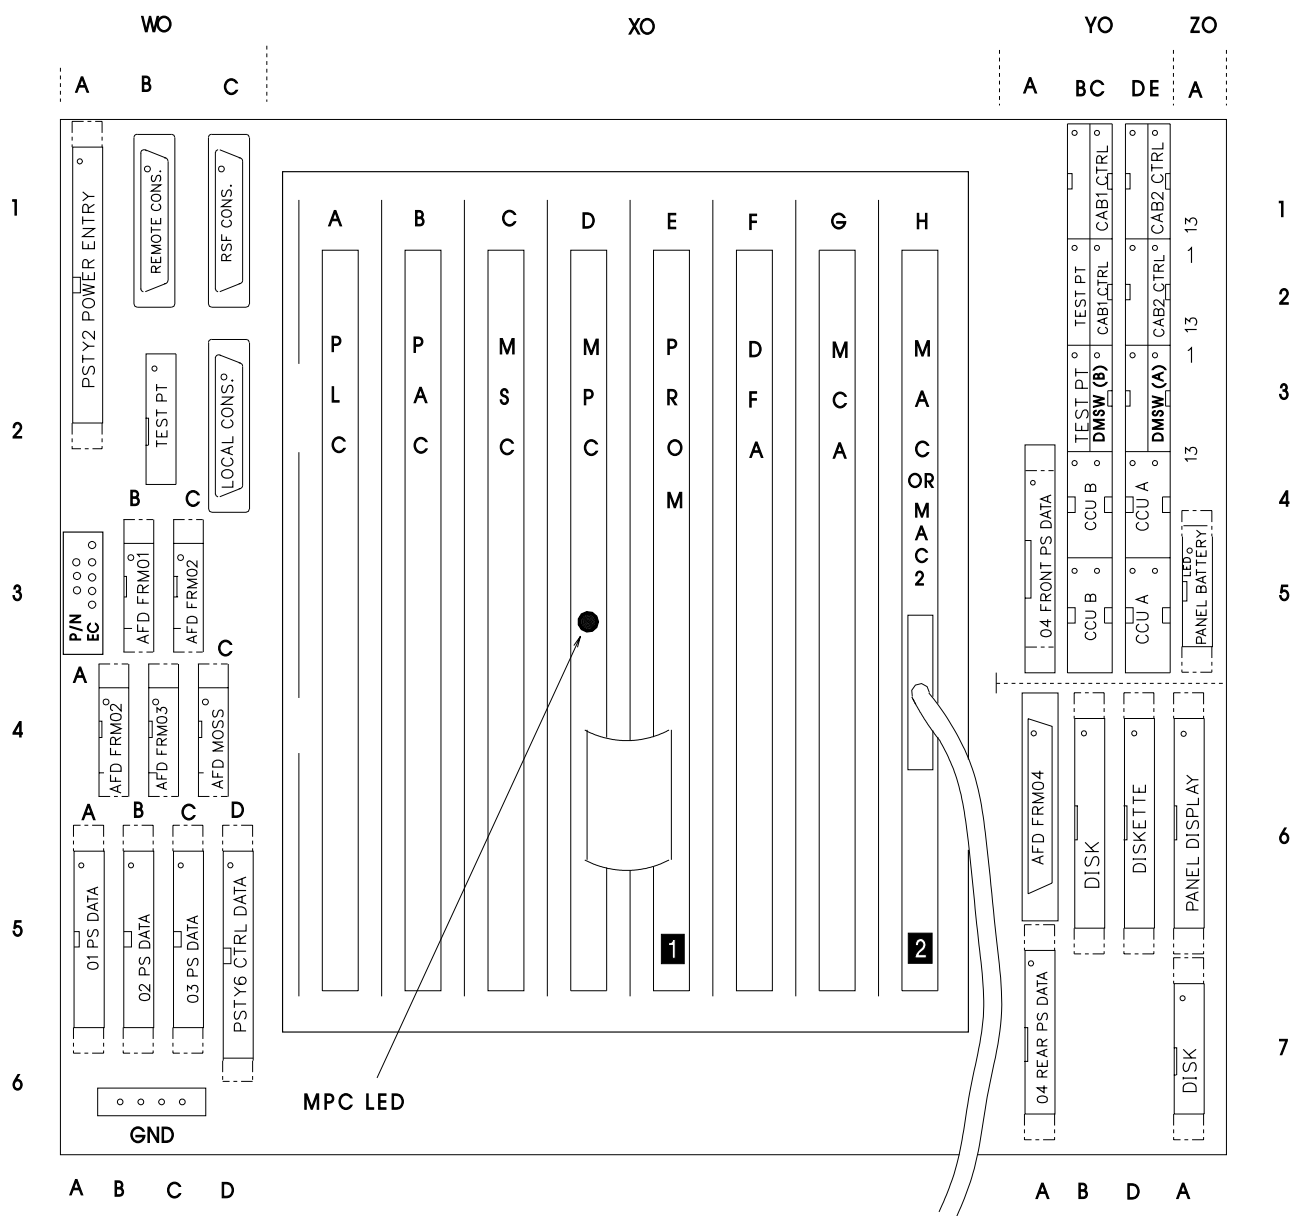
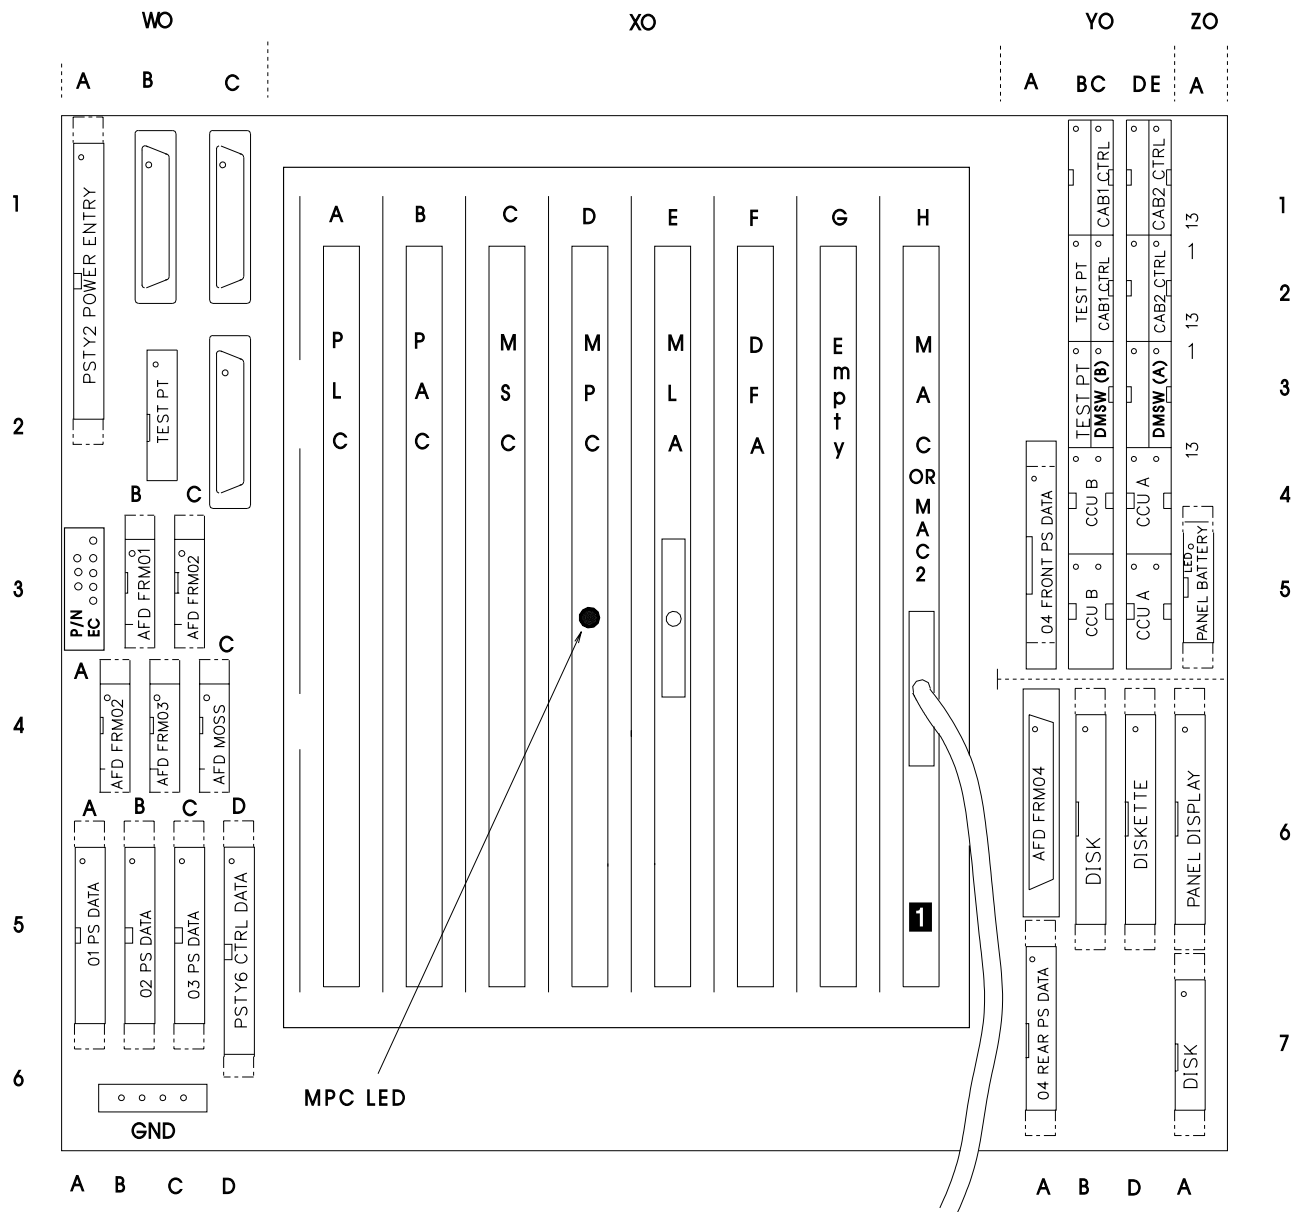

Figure 4-145. MOSS Cables and Cards for Models 210-610
Figure 4-146. 3745 MOSS Board, Cards, and Connectors for Models 21A-61A
5. Refer to Figure 4-145 on page 4-158.
6. Refer to Figure 4-145 on page 4-158 for Models 210-610
7. Refer to Figure 4-145 on page 4-158 for Models 210-610 or Figure 4-146 for Models 21A-61A.
3. Refer to Figure 4-145 on page 4-158.
Install the cards in their correct locations according to their labels. Refer to Figure 4-145 on page 4-158.